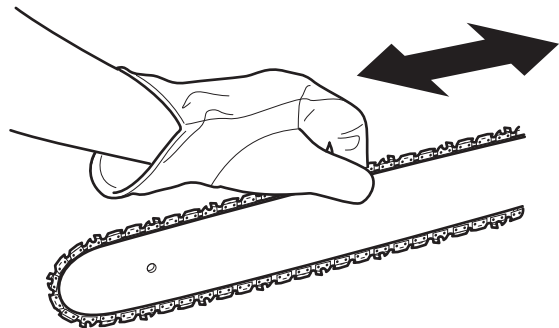

Fig. 28
4. Continue to hold the guide bar tip up and move the saw chain back and forth along the guide bar (Fig. 28). Make sure the saw chain moves freely and is in proper mesh with the sprocket. If the saw chain does not move easily, slowly turn the chain-tensioning screw counterclockwise to loosen the saw chain.